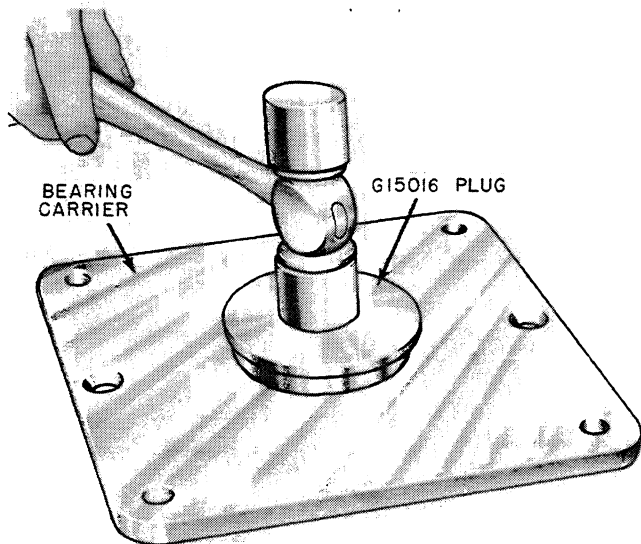

Figure 54. Installing Oil Seal
1. Place the carrier on a bench, Figure 54.
2. Use a G15016 plug to install oil seal in carrier, Figure 54. Check with a straight edge to make certain seal is flush with surface of carrier.